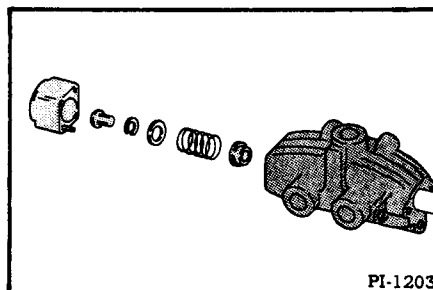

Fig. 128 Removing the Internal Parts
1. Remove the four cap screws from the valve bonnet and remove it (Figure 128).
2. Remove the round head screw, lock washer, flat washer, spring and stop collar from the end of the spool (Figure 128).